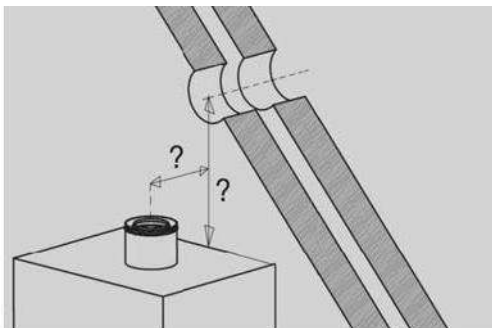

Figure 4.9 Flue terminal location determination
2. Determine the appropriate location of flue terminal. See figure 4.9.